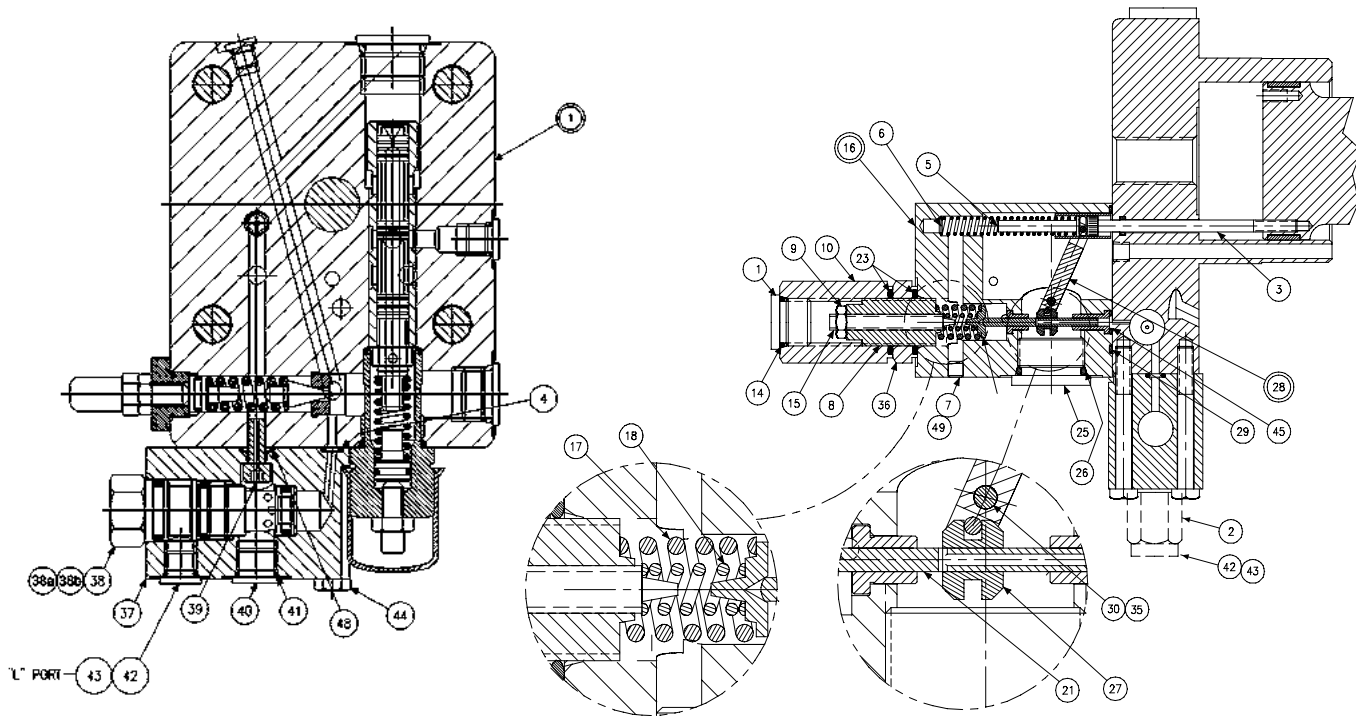

FIGURE 13
PARTS LIST FOR FIGURE 13
1. See Figure 13. Remove 2 screws holding torque limiter body (16) to cap assembly (1).
2. Remove all parts from torque limiter body (16) except pin (30) and arm assembly (28). It is not necessary to remove these parts unless broken or worn. Examine parts for wear or damage.
3. Remove screw (3). Examine head for excessive wear, and body for smooth sealing surface with O-ring.
5. Remove modulating valve (38) from body (37). Remove body (37) from cap assembly (1) Note plug (40) must be removed to remove special screw (39). Remove cap assembly (1).
2. Press seat (10) into bore squarely against shoulder in bore.
3. Install plug (12) and spool (18) into bore as shown. Install spring (11) over end of spool. Install O-ring (6) on stop (16). Lubricate and install into plug (15). Install plug (15) into cap. Install screw (3), nut (4) and cover (17).
4. Install O-ring (6) on seal piston (5).
5. Lubricate O-ring and install cone (8), spring (7) and seal piston into bore in cap (1), being careful that cone enters seat (10). Install remaining parts in body (1)
8. See Figure 13. Install block (37) on cap (1) with O-rings (4) and (48). Use special screw (39) through the block.
9. Install O-rings (38a) and (38b) on valve (38). Observe that backup ring on inside groove is toward the outside, the one on the middle groove is toward the inside, and the one on the outside groove is toward the outside. Lubricate and install valve (38) in block (37), being careful to avoid damaging the O-rings. Torque to 50 lb.*ft., 67,8 Nm.
10. For the P140 only, install O-ring (43) on adapter (2). Install adapter in block (37). Install plug (31) in adapter (35). For the P09 only, install O-ring (43) on plug (42). Install plug (42) in block (37).
11. Apply thread locking compound on threads of screw (3), lubricate the shank, thread through the cap into the control piston, and torque to 5 lb.*ft., 6,8 Nm
13. Press dowel (30) into body (16), through the link assembly (28), to 1/4", 6,35 mm below surface. Apply hydraulic sealant to threads of screws (35) and install over dowel (30).
14. While sleeve (27) is engaged into dowel on link (28), slide spool (21) into bore of body (16), and through sleeve (27). Spool (21) must move freely and easily at all positions of the link (28).
15. Assemble remaining parts per drawing. While spring retainer is engaging clevis pin (5) under dowel of link (28), slide the other opening of spring retainer over the top of the screw (3). Attach body assembly (16) to cap (1) and torque mounting screws to 75 lb.*ft., 102 Nm.